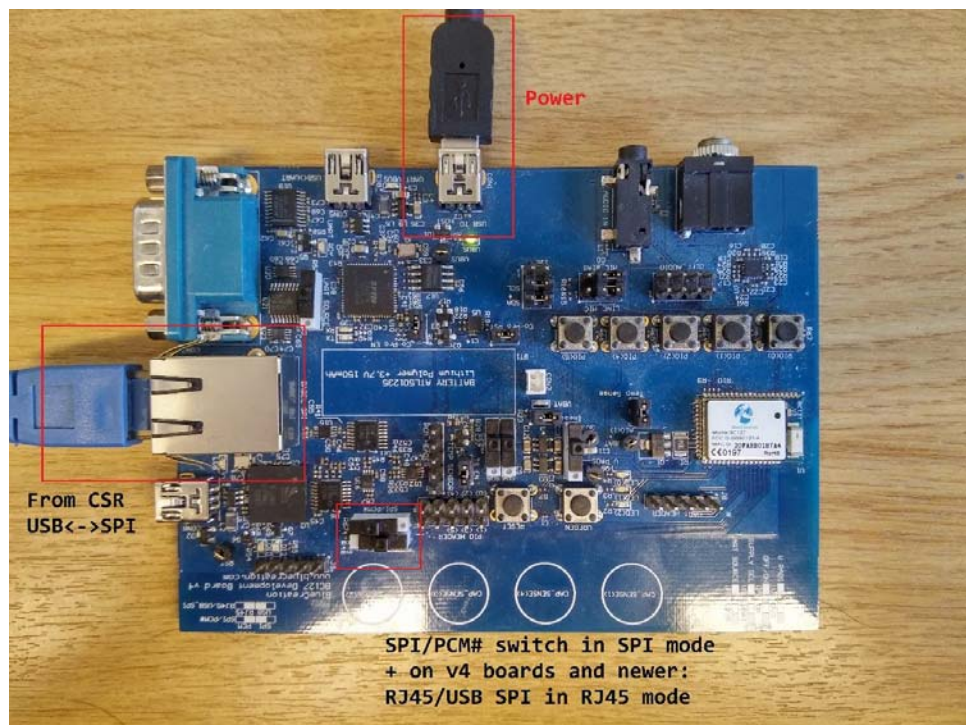

Figure 3-2: Connecting a BC127 Dev Board to a PC for Programming
- B. Plug in mini USB cable into power source wall charger or PC USB and connect it to one of the mini USB ports on your development board. If the USB cable is connected to a PC the development board will start enumerating. This is not important. (Figure 3-2).
- C. Ensure SPI/PCM# switch is in SPI mode (Figure 3-2).
- D. v4 and newer only: Ensure RJ45/USB SPI switch is in RJ45 mode (Figure 3-2).
- E. Ensure SUPPLY SEL switch is in VBUS mode (Figure 3-2).
- F. Plug in the RJ45 cable from the CSR USB<->SPI converter to your Dev Board's RJ45 connector (CON6/ BABEL SPI) (Figure 3-2).